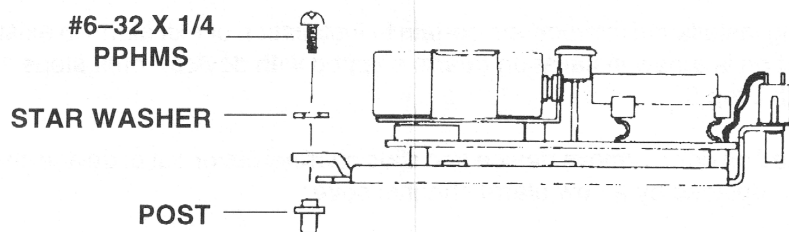
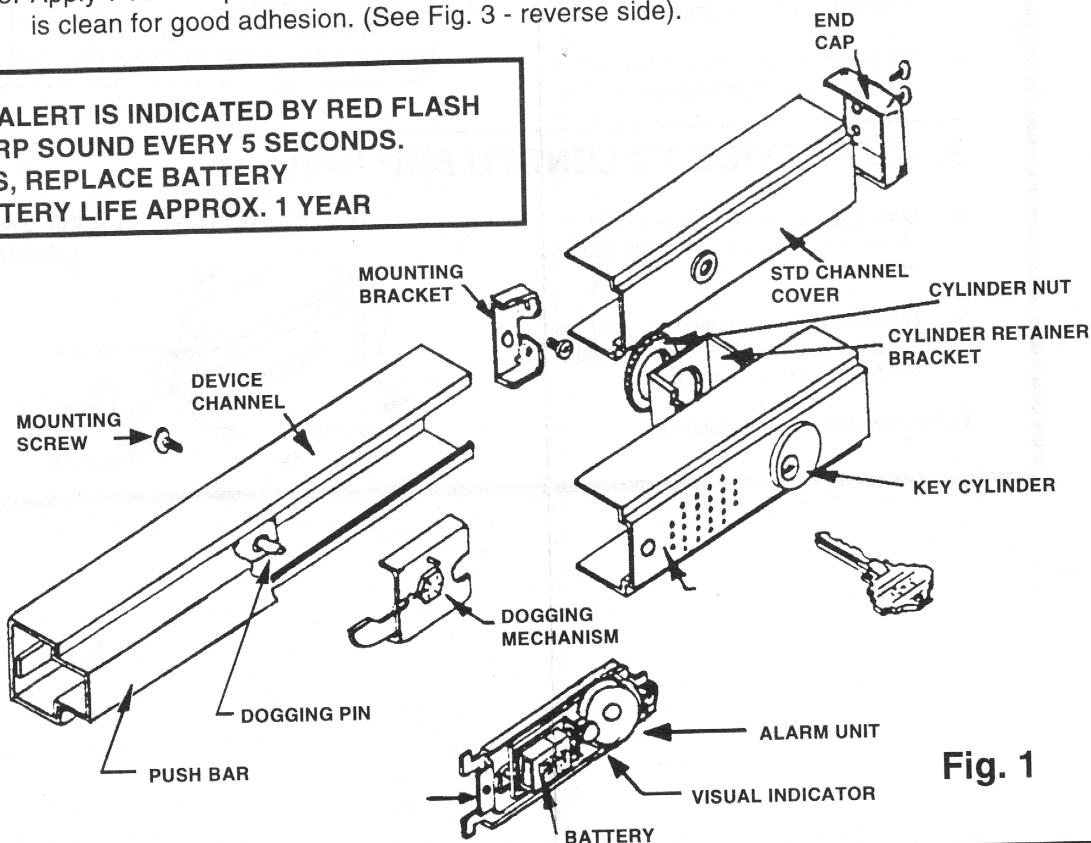

FIG. 2
Fig. 1
- Measure distance "Y" from vertical C/L to stop surface on hinge side. See Fig. 1
4. Install alarm unit (For fire devices see Fig. 2 reverse side) into device channel by sliding it from open channel end up to dogging pin (See Fig. 1). lift alarm unit and insert alarm unit actuator over dogging pin. Install alarm unit retaining screw (supplied with unit) from device channel rear side (See Fig 7) and securely tighten. Do not use mounting screw from dogging mechanism.
6. Insert key cylinder (supplied) into cylinder access hole in alarm channel cover with keyway oriented as in Fig. 1. 1 1/8" long mortise cylinder with standard 'A' cam recommended. Longer cylinders with appropriate spacers can be used.
7. Slide cylinder retainer bracket over threaded end of key cylinder (See Fig. 1) inside alarm channel cover. NOTE! Notches in cylinder bracket engage recess notches in cylinder to prevent cylinder from turning.
8. Thread cylinder nut onto key cylinder, check orientation of keyway with respect to channel cover (See Fig. 1), then tighten securely.
9. Check battery of alarm unit to see that it is positively engaged into battery post clip. (See Fig. 1).
11. Slide alarm channel cover into channel properly orienting cover with respect to device (See Fig. 1), push alarm channel cover up to push-bar of device.